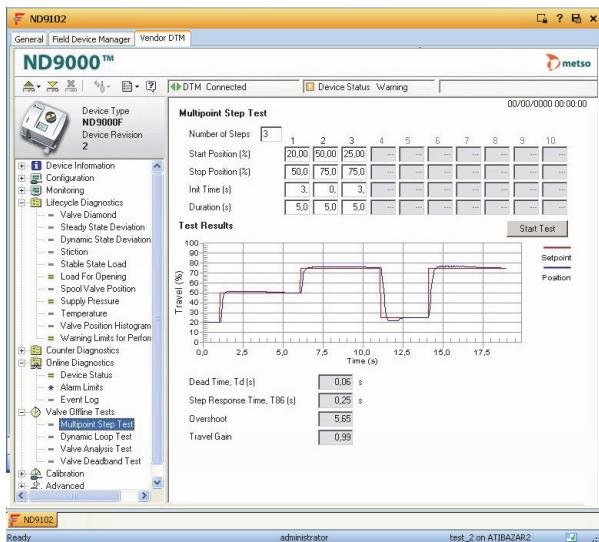

Figure 25. Multipoint Step Response Test
- ▶ Step response tests (Figure 25) can indicate how well the valve follows setpoint, and validate how well the positioner is tuned.